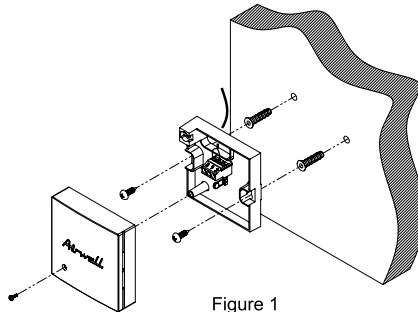

Figure 1
1. Install the thermostat box on the wall according to the above location preferences. See figure 1.